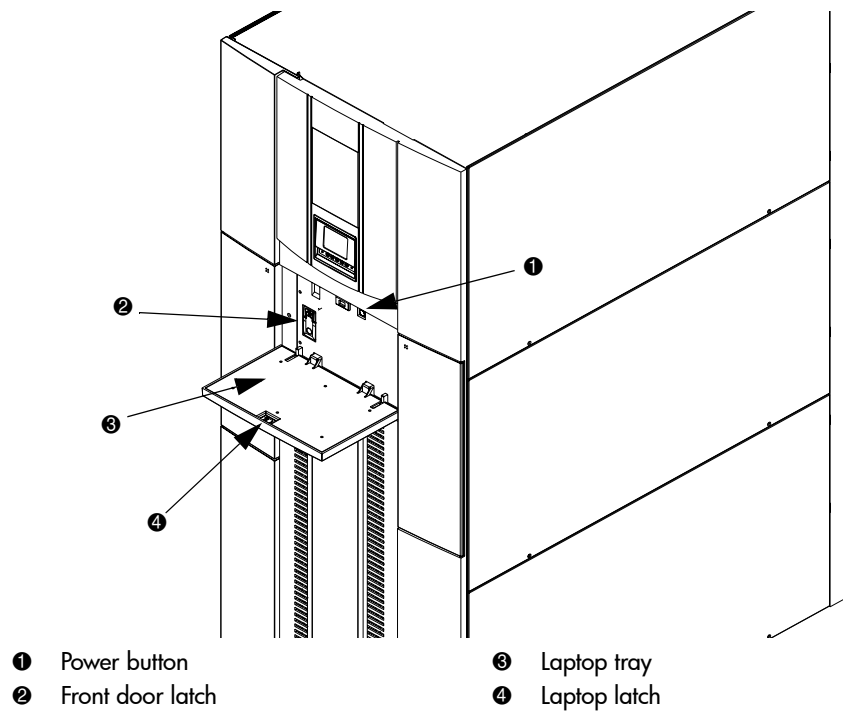

Figure 22: Closing the front door
1. Close and lock the front door using the key provided in the accessory kit (see Figure 22).
4. Power on the power switch located behind the laptop tray (see Figure 22, page 58).
5. Turn off the power switch located on the front of the library (see Figure 22 on page 58).